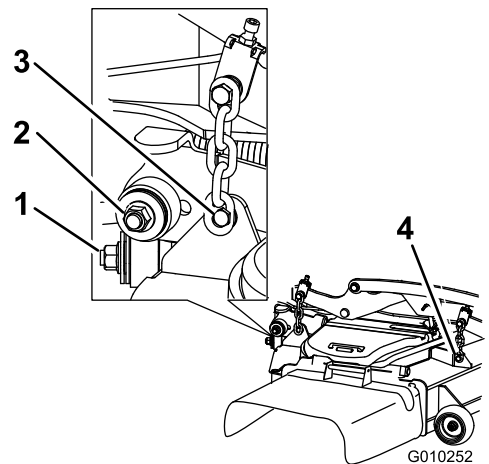

Figure 110
7. Remove and retain the hardware on both sides of the deck as shown in Figure 110.